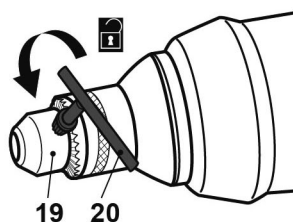

Fig. 2
- > Insert the chuck key (20) into one of the holes on the keyed drill chuck (19). Then turn the chuck key anticlockwise until the tool socket is opened wide enough to insert the drill bit (Fig. 2).